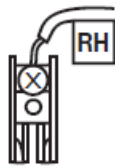

Figure 4
- Match and connect the labeled wires to the appropriate coded terminal screws on the wallplate. (See Figure 4, 5.) Ignore any wires which may be present, but which were not connected to the old thermostat.